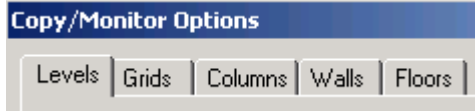

Figure 5. Categories in Revit Structure
To initiate downstream discipline specific models for structure and building systems, Revit includes efficient tools for copying architectural elements from linked models and turning them into native engineering discipline elements. The following categories of objects in (Figure 5) on the following page can be copied from Autodesk® Revit® Architecture into other models.
It is important to note that each category in (Figure 5) includes Option settings (Appendix Figures A1-A5) to control how the respective information will be copied into the model. Copy / Monitor can be started from either the icon shown in the Tools toolbar or from the Tools pulldown menu (Figure 6).
1. Copy one category of elements at a time (in sequence per Fig. 5), repeat as necessary for other categories